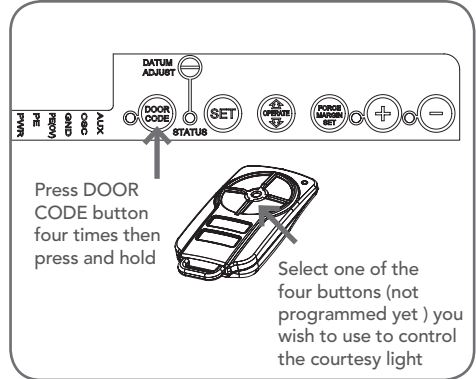

Fig. 8.3
- Press and hold the DOOR CODE button four (4) times, then press it again and hold (the opener will beep five times on the five press **(Fig. 8.3)**).
- Choose a transmitter button not already coded into the receiver. Press and hold this button for two (2) seconds, pause for two (2) seconds, then press the same button again for two (2) seconds and release.